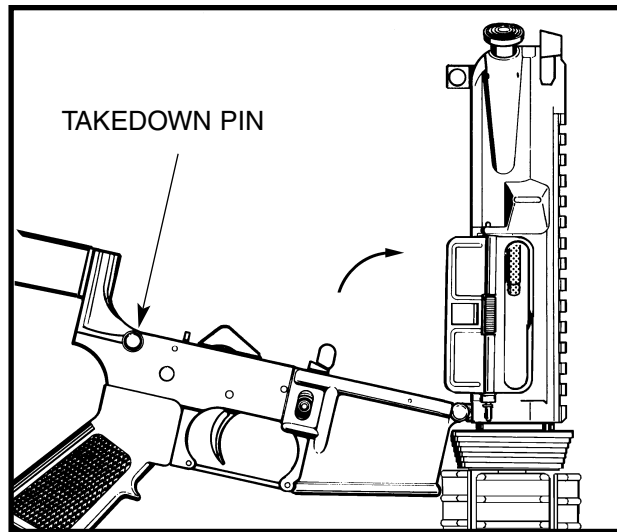

Figure 3-2-4 Opening the Receiver
- b. Push the takedown pin all the way to the right and pivot the upper receiver upward. See Figure 3-2-4;